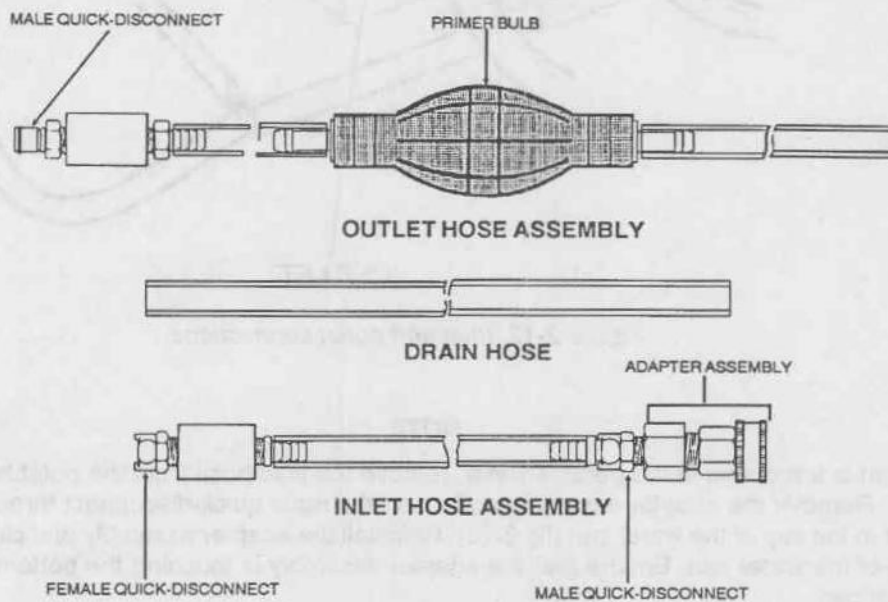

Figure 2-11. Hose installations.
h. Install the inlet hose assembly (fig 2-11) by following the procedures for either a non-pressurized or a pressurized source of water.